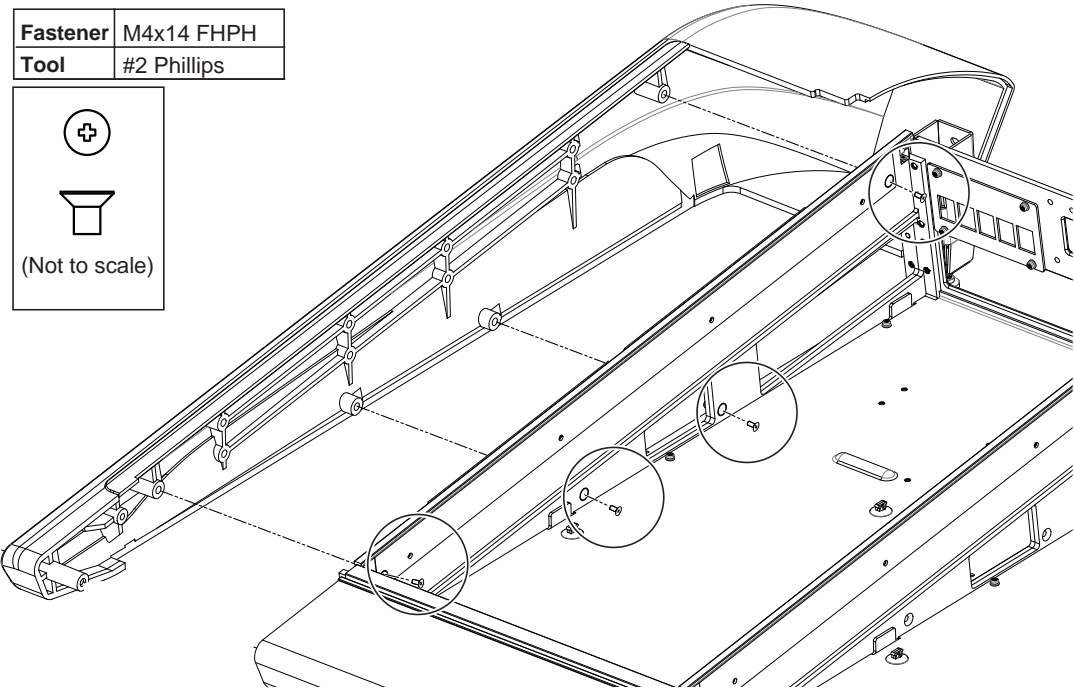

Figure 10. Removing the left Side Cover
- 2 From the inside of the chassis, remove the four Phillips screws that secure the Side Cover to the frame (see Figure 10).